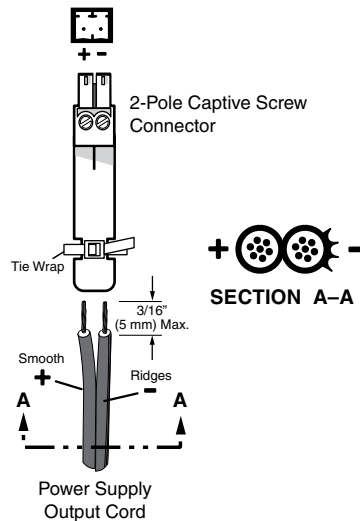

Figure 3. DC Power Output Wiring
- DC power output connectors** — Connect up to 12 devices to these 2-pole, 3.5 mm captive screw connectors (see **figure 2, C** on the previous page). Wire the connectors as shown in figure 3. Each output provides 12 VDC. Do not exceed 8 amps of combined current draw for the connected devices.